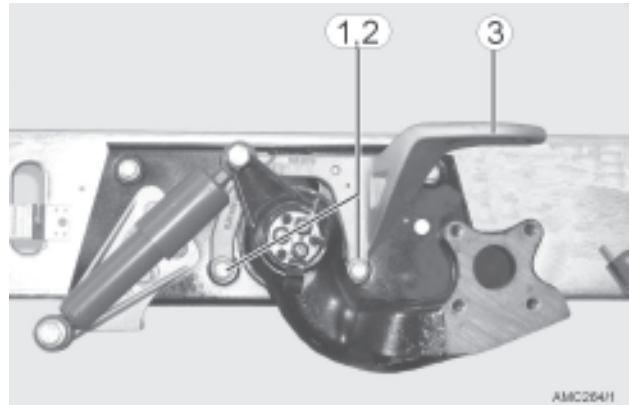

Fig. 55
5. Unscrew two M12x1.5 conternuts (Fig 55-1) from the inside of the frame, from the M12x1.5x65 hexagon bolts (Fig 55 -2) and remove the upper bellows bracket (Fig 55-3).